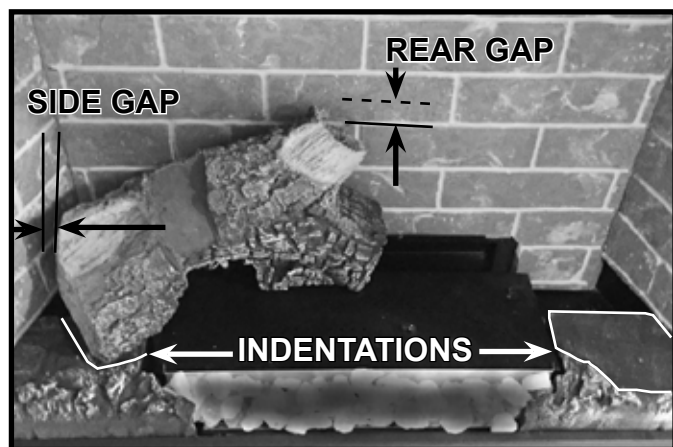

Figure 4 Rear Left Log Installed
The log pins, along with the indentations in the hearth components, will aid in correctly positioning the two rear logs and small burner log. The indentations are shown in Figure 4.
Additionally, the rear left log and rear right log are located by indentations in the right and left hearth components. See Figure 4.
1. Remove large rear left log from the packaging and install the log by locating it on the back left log pin(s). See Figure 4.
Note: SL-3X models do not utilize hearth indentations. See Figure 4.
SL-7X and SL-9X Models: The left side of the rear left log will reside within the indentation in the left hearth component. The rear left log will be positioned to maintain about a 1/4 inch rear gap between the rear left log and the back wall refractory. There will be about a 1 inch side gap between the left end of the log and left panel. See Figure 4.
SL-3X Models: The notch on the rear left log will engage the back left log pin. The rear left log will contact the left refractory panel (no side gap). See Figure 4.